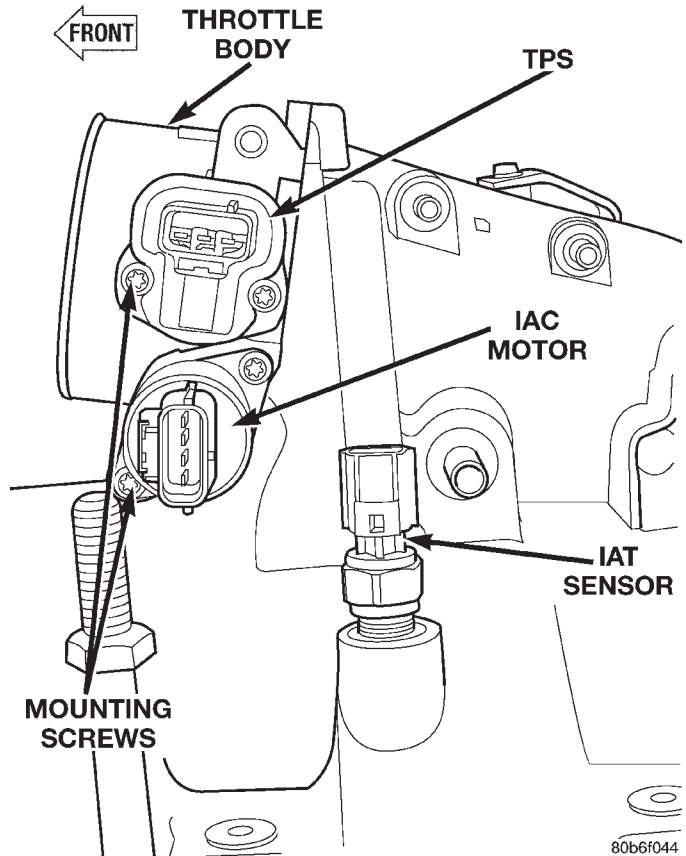

Fig. 27 TPS Mounting Bolts—4.7L V-8 Engine
- (3) Remove two TPS mounting bolts (screws) (Fig. 27).
- (3) Remove two mounting bolts (screws) (Fig. 27).
- (4) Remove IAC motor from throttle body.